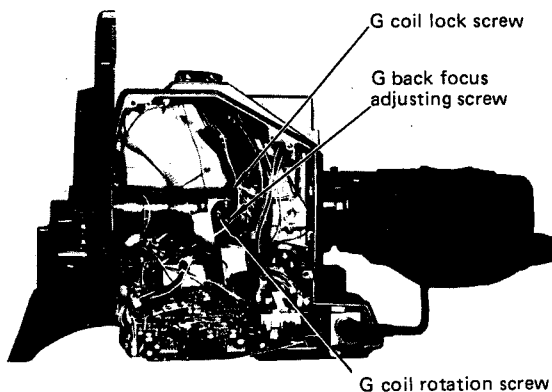
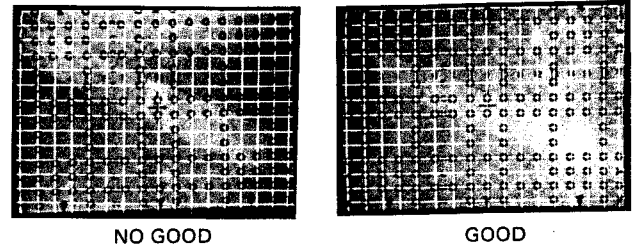

Fig. 5-4-15
Fig. 5-4-16
- o If not, loosen the G coil lock screw (G LOCK) slightly and turn the G coil rotation screw (G ROTATION) slowly and carefully (Fig. 5-4-15) so that the balls in horizontal direction on the linearity chart is parallel with the horizontal line of crosshatch pattern. (Fig. 5-4-16)